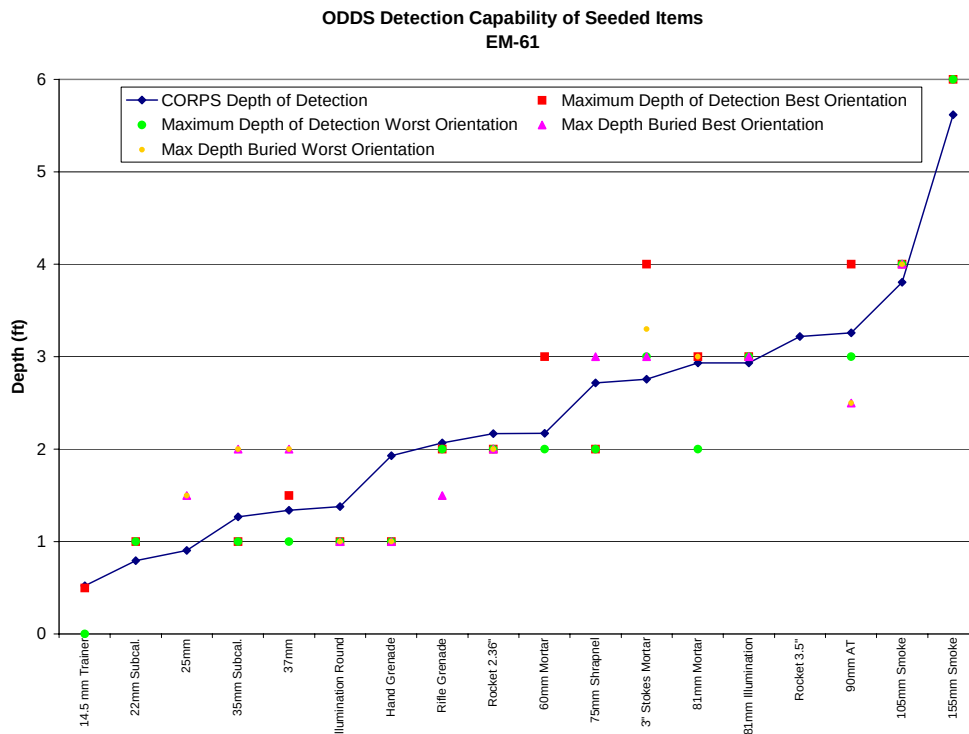

**Figure D.1 Fort Ord Detection Depths –EM61**
b. The Ordnance Detection and Discrimination Study (ODDS) conducted by Parsons Engineering Science for the Corps of Engineers at the former Fort Ord in California, in July 2000, generated excellent examples of static test data using vertical gradient magnetometer and EM (time domain and frequency domain). Figure D.1 was compiled using ODDS data, illustrating their findings on maximum depths of detection for 187 different ordnance items, ranging in size from a 14.5 mm trainer M181 projectile, to a 155 mm projectile. It is important to note that all of these measurements were recorded using a special platform, raised above the ground surface with low ambient noise. The following comments can be made:
- (1) Maximum depth for each item was the calculated maximum depth of detection for soils at Fort Ord. For the EM61, best and worst orientations were generally with the long axis of the item vertical, and horizontal, respectively.
(2) Readings as low as 1.49 mV were recorded as detectable for the EM61. While these numbers may be useful in calculating detection depths in an ideal environment, in a real survey noise levels from a variety of sources will probably necessitate a higher threshold. Additionally, the better signal to noise ratio and earlier time gates of the EM61-MK2A will improve the detection level of both smaller and deeper targets.